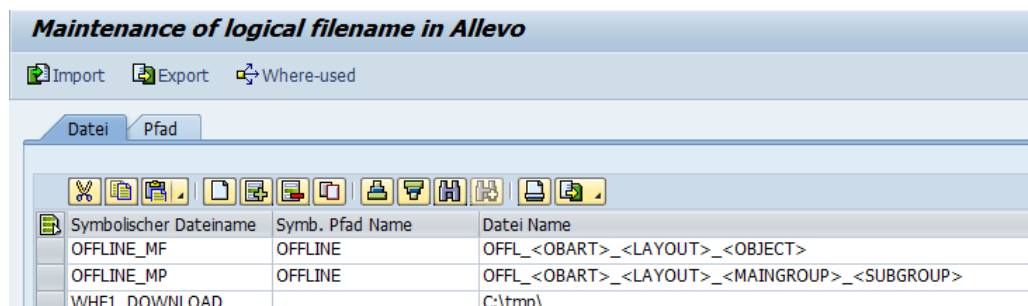

Figure 22.11: File management: File names for offline mode
Figure 22.11 shows examples for two variable file paths. The first entry can be used for offline planning in MultiFile or MultiObject mode (MF, MO), where one file is created for each representative object. In cost center planning processes with the layout TEST, the file OFFL_KS_TEST_1000.XLSM would be generated for cost center 1000.
The file name in the second line of Figure 22.11 is suitable for MultiPage mode (MP). In this mode, one file is generated for each combination of group and subgroup.